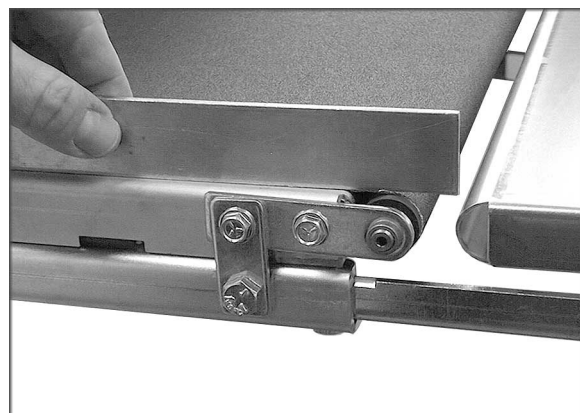

Figure 33
**Step 1:** Check the conveyor drive roller and the driven roller to make sure they are parallel to the surface of the conveyor bed. To do this, first center the conveyor belt on the bed. Then lay a straight-edge on the exposed edge of the conveyor bed on the left (outboard) side, extending it over the roller. See Figure 33. Note the distance between the roller and the straightedge.